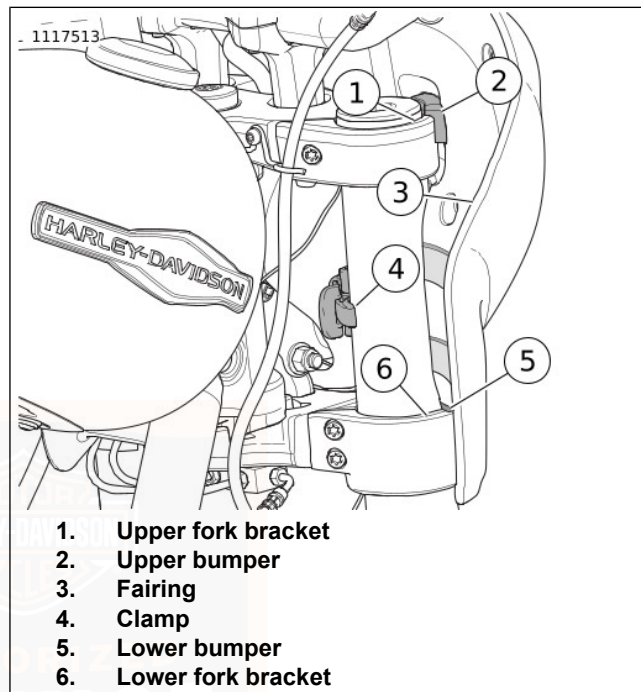

Figure 43. Fairing Installed
1. See Figure 43. Remove fairing.
- Open clamps (4).
- Straddle fender. Lift fairing (3) up over headlamp.
- b. Open clamps (4).
- c. Straddle front fender. Place fairing over headlamp and onto front forks (5).
- d. See Figure 43. Position upper bumper (2) on upper fork bracket (1).
- e. Verify lower bumper (5) is seated on lower fork bracket (6).